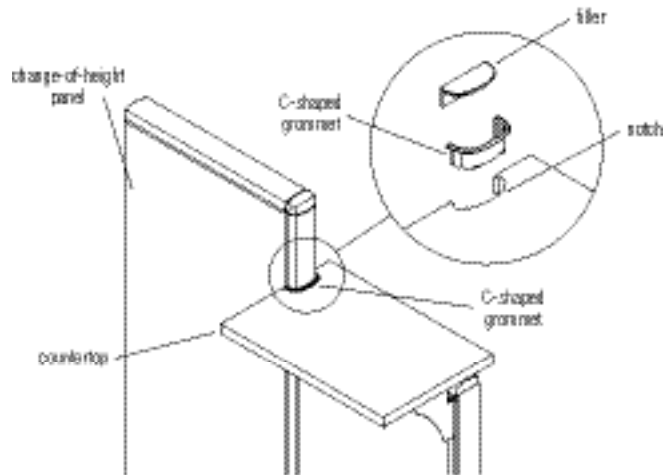

Figure 1
2. Use a filler to cap the grommet if countertop is reconfigured to a location without taller change-of-height panels (Figure 1).